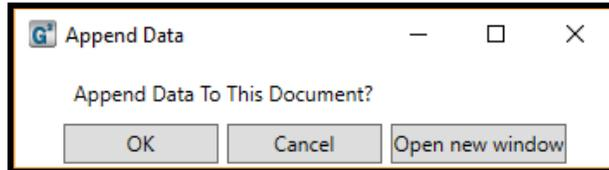

Figure 25
- 3) Guardian² will display a window (Figure 25) with the following choices: